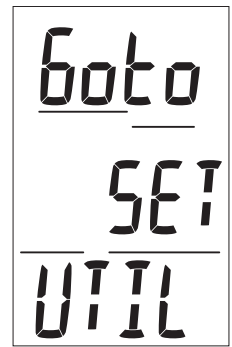

Fig. 27 - Set UTILITIES LEAD-IN
**Set Utilities Lead-in**, information includes (Fig. 27):